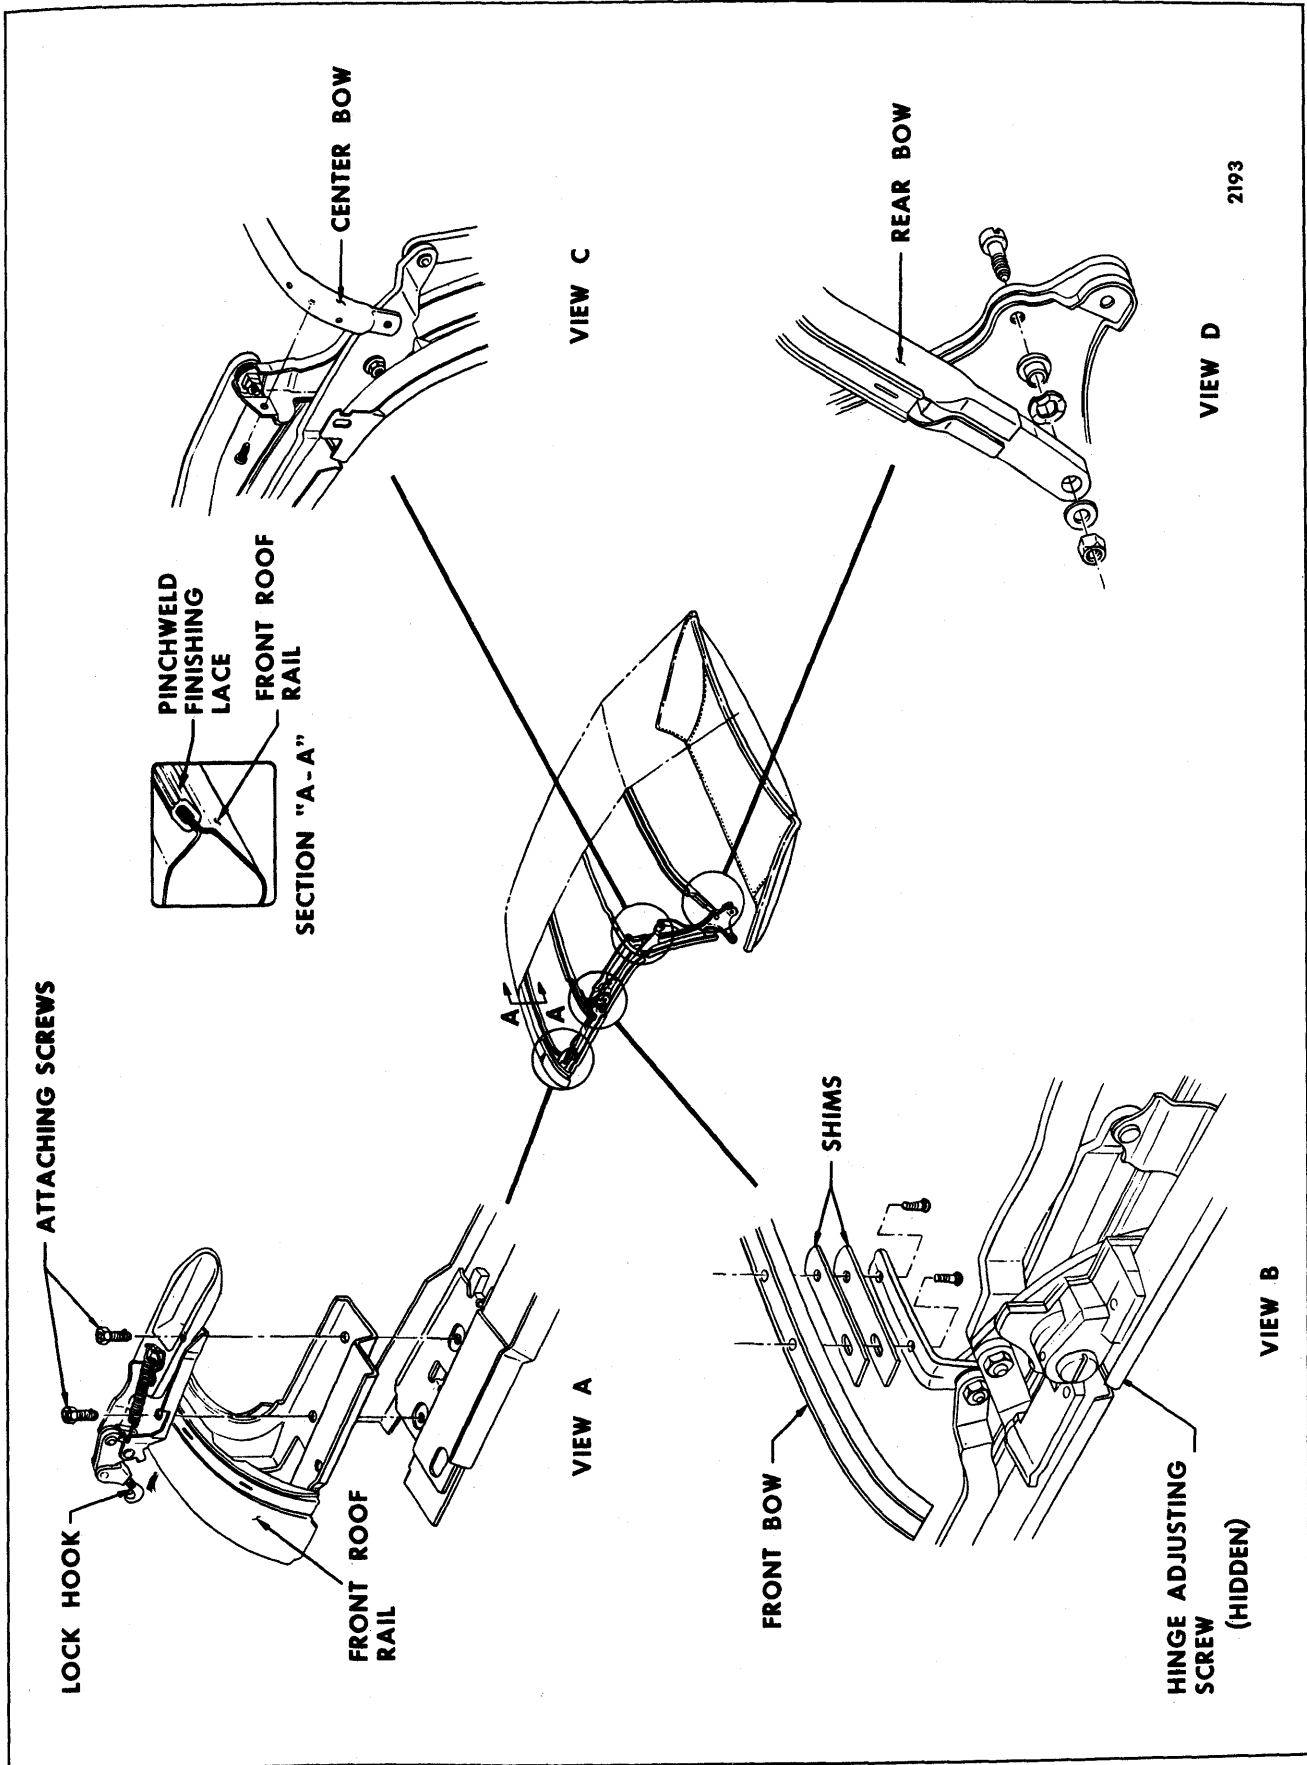

Fig. 6-80—"A" Body Folding Top Adjustments
2. Loosen lock assembly attaching screws on side roof front rail and adjust front roof rail fore or aft as required. Repeat on opposite side if necessary. (See View "A", Fig. 6-80.)
2. With top in a half-open position, remove lock attaching screws; then remove lock assembly from front roof rail. (See View "A", Fig. 6-80).
3. Front roof rail misaligned.	Adjust front roof rail. (View "A" in Fig. 6-80).